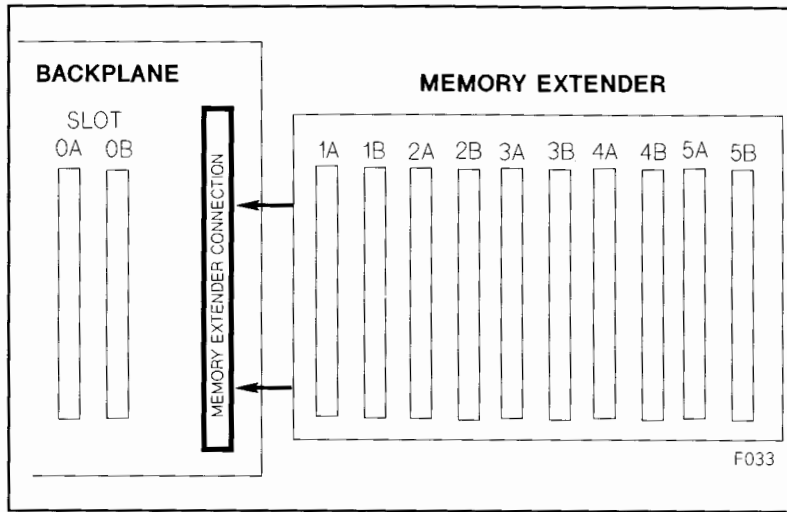
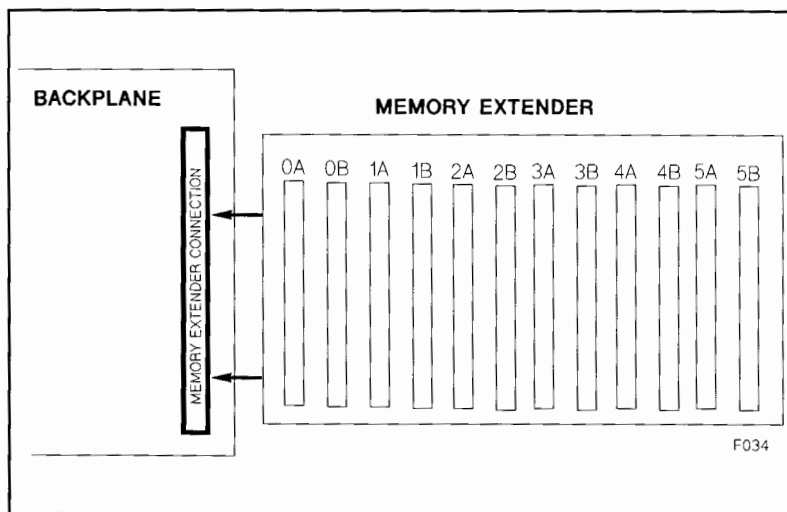

Figure 4-7. Memory System Slot Locations
Figure 4-8. Memory System Slot Locations - 64 MHz Backplane
Figure 4-7 shows the backplane and memory extender PCA memory slot numbering scheme of the original systems. Slot 0A and 0B are located on the system backplane. The remaining slots are located on the memory extender.
Figure 4-8 shows the memory extender PCA memory slot numbering scheme of systems with 64 MHz or greater processor PCAs. There is no memory on the backplane.
2. Memory pairs can be installed in any pair of slot (e.g., 1A and 1B, 4A and 4B, etc). See Figure 4-7 and Figure 4-8.